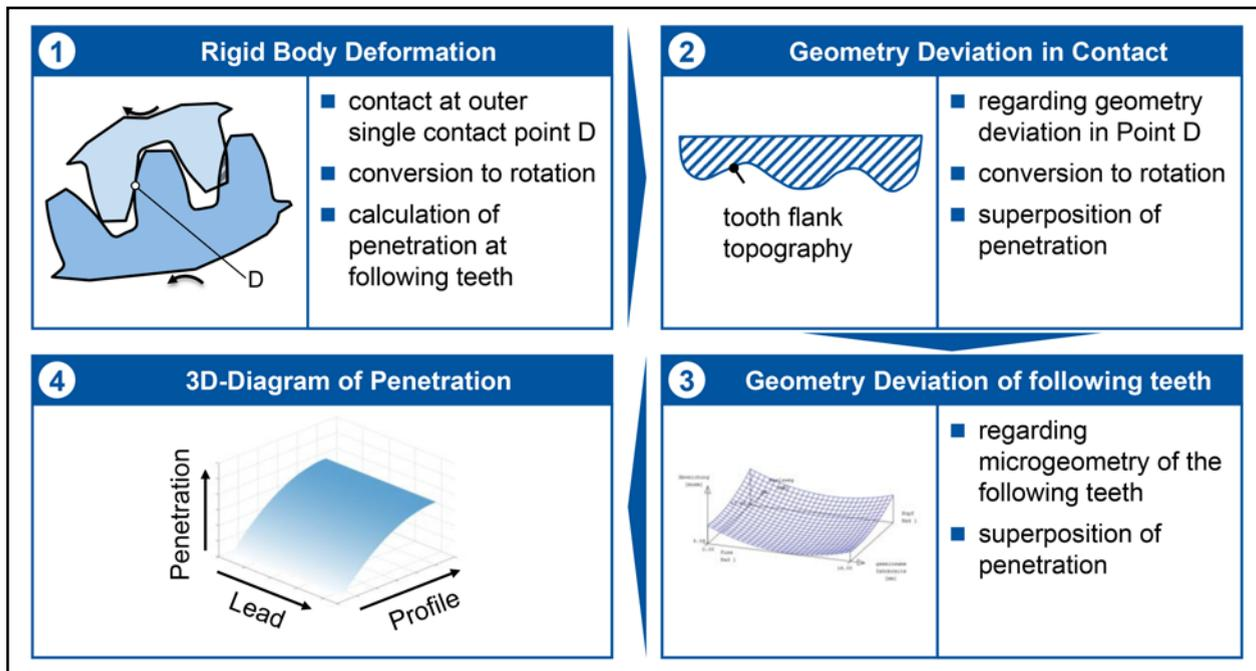

Figure 5 Approach for the calculation of penetration.
**FE-based calculation of penetration.** The concept and approach of the FE-based calculation of penetration is shown (Fig. 5). The calculation model can be divided into different parts that consider different influences on the penetration.